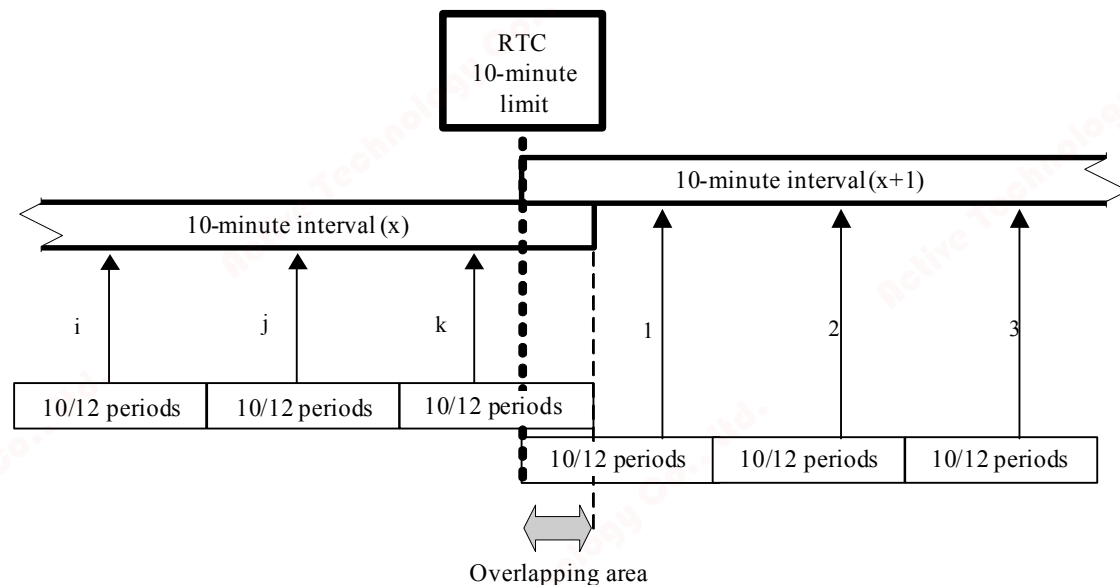

Figure 4-1 Synchronization of the Aggregation Intervals for Class A
- Each 10-minute interval begins at an RTC 10-minute limit. At this 10-minute limit, the 10-/12-period time intervals are aggregated over a 10-minute interval. The last 10-/12-period time interval in a 10-minute aggregation interval overlaps in time at an RTC 10-minute limit. Each overlapping 10-/12-period time interval (for the overlapping area, see Figure 4-1) is included in the aggregation interval of the preceding 10-minute interval.
- The measurement determines the RMS value of the mains voltage over a 10-period time interval for 50-Hz distribution systems and over a 12-period time interval for 60-Hz distribution systems. All 10-/12-period time intervals are measured without interruption and overlapping (the overlapping area excluded, see Figure 4-1).